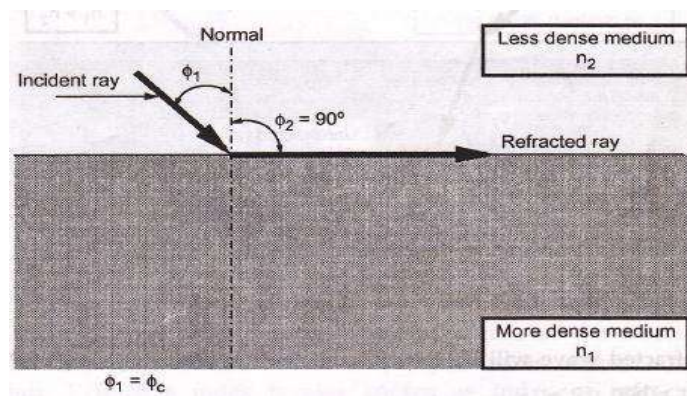

Fig.1.6.5 Critical Angle
- The **critical angle** is defined as the minimum angle of incidence ( $\phi_1$ ) at which the ray strikes the interface of two media and causes an angle of refraction ( $\phi_2$ ) equal to  $90^\circ$ . Fig 1.6.5 shows critical angle refraction.